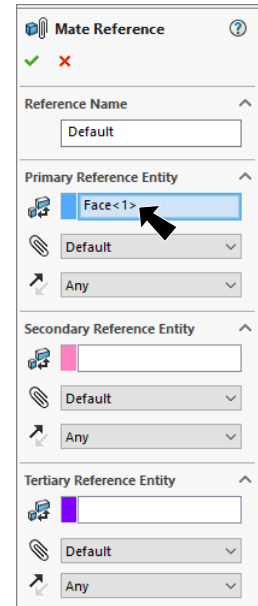

Fig. 9
Step 3. In the Mate Reference Manager, Fig. 9